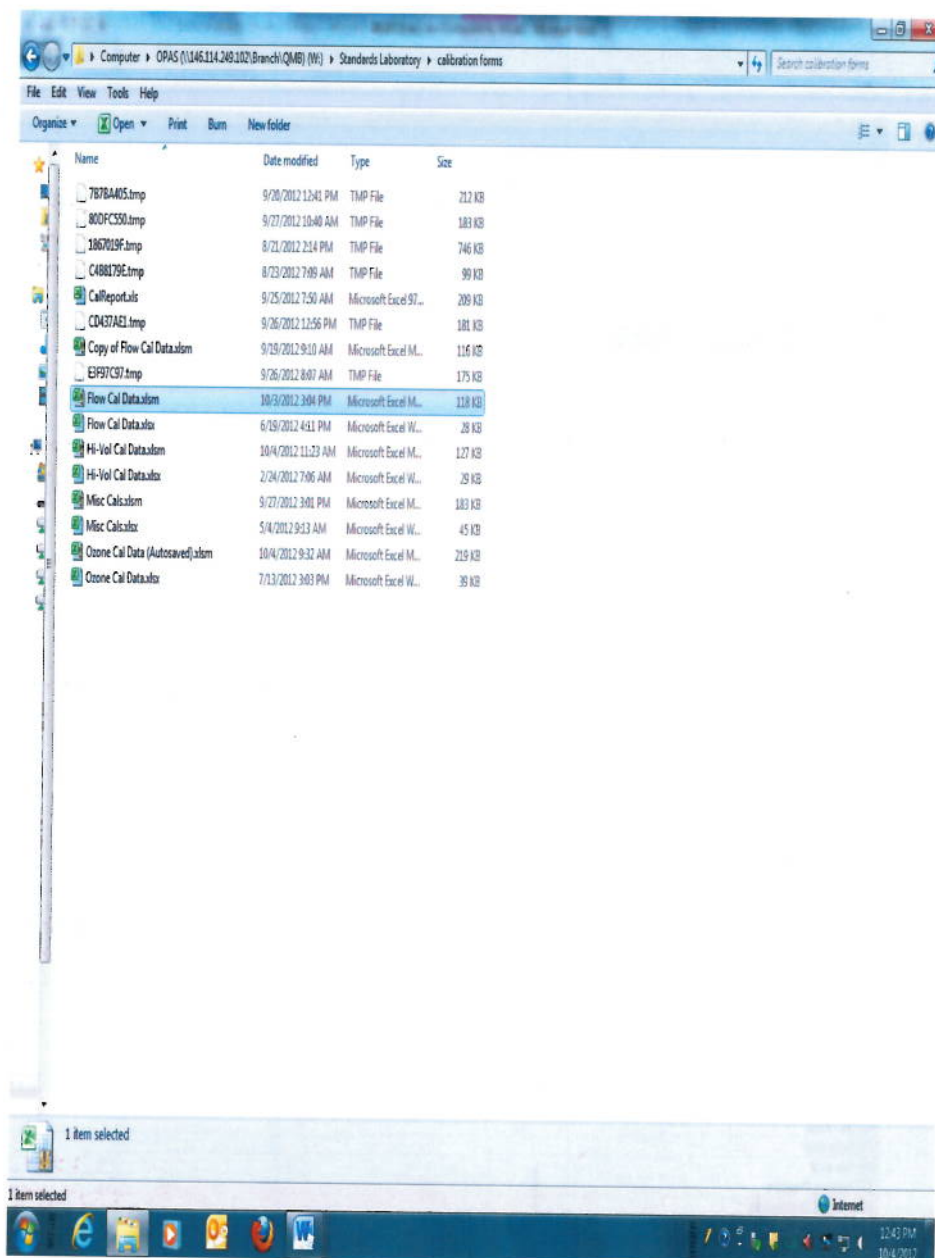

Figure 24
13.1.3 Double-click on the “Flow Cal Data.xlsm” workbook. See Figure 24.